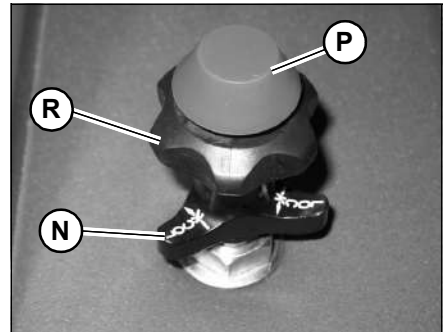

Figure 16 – Hand Throttle
1. Loosen the throttle lock ring (N, Fig. 16).
2. Press the red throttle release button (P).
3. Pull/push the throttle control knob (R) and the throttle release button as a unit.